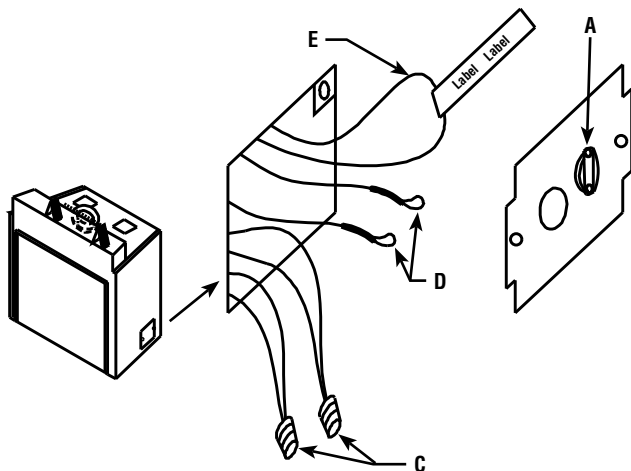

Figure 29
- \* The electrical box is located at the right rear of the fireplace (see **Figures 29 and 30**). Remove the cover, loosen the wire clamp A and feed the household supply line through the clamp and retighten clamp.
If desired, a wall-mounted fan speed control can be installed. The breaker supplying electricity to the fireplace must be turned off at the electrical panel before any connections are made. The loop of wire with the label attached (E in **Figure 29**) may be cut and the wire leads from the wall-mounted speed control connected to each end of the cut wire.
The remaining red and white wires with capped ends (wires D in **Figure 29**) are for the optional Forced Air Heating System. See the instructions provided with the system for installation details.